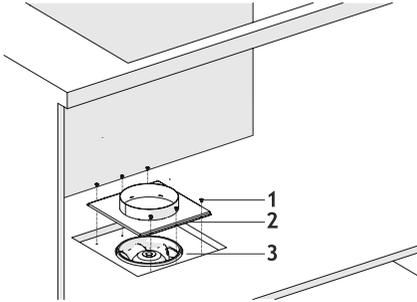

Fig. 23
8. ➔ ■ Attach the air suction plate with 6 connection screws (Fig. 23).